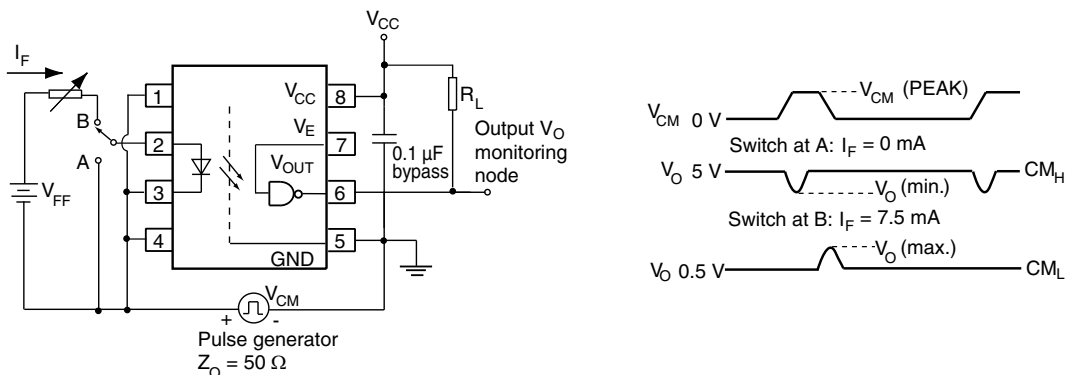

Fig. 4 - VOW137 Test Circuit for Common Mode Transient Immunity
- VOW137 CMTI test circuit refer to Fig. 4